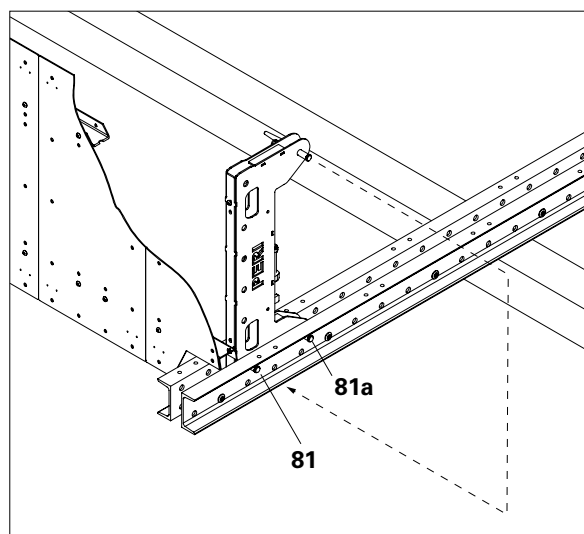

Fig. C1.14
4. Turn the platform upwards over the Fitting Pins (81a) and insert Fitting Pin (81) and Cotter Pin in the Climbing Rail. (Fig. C1.14)